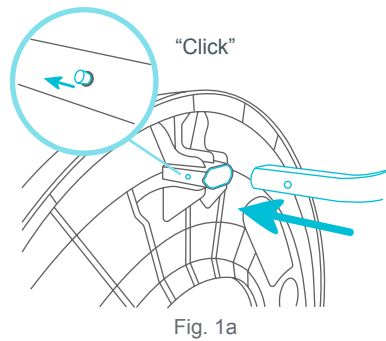

Fig. 1a
- Insert each leg into the underside of the tabletop (Fig. 1a).